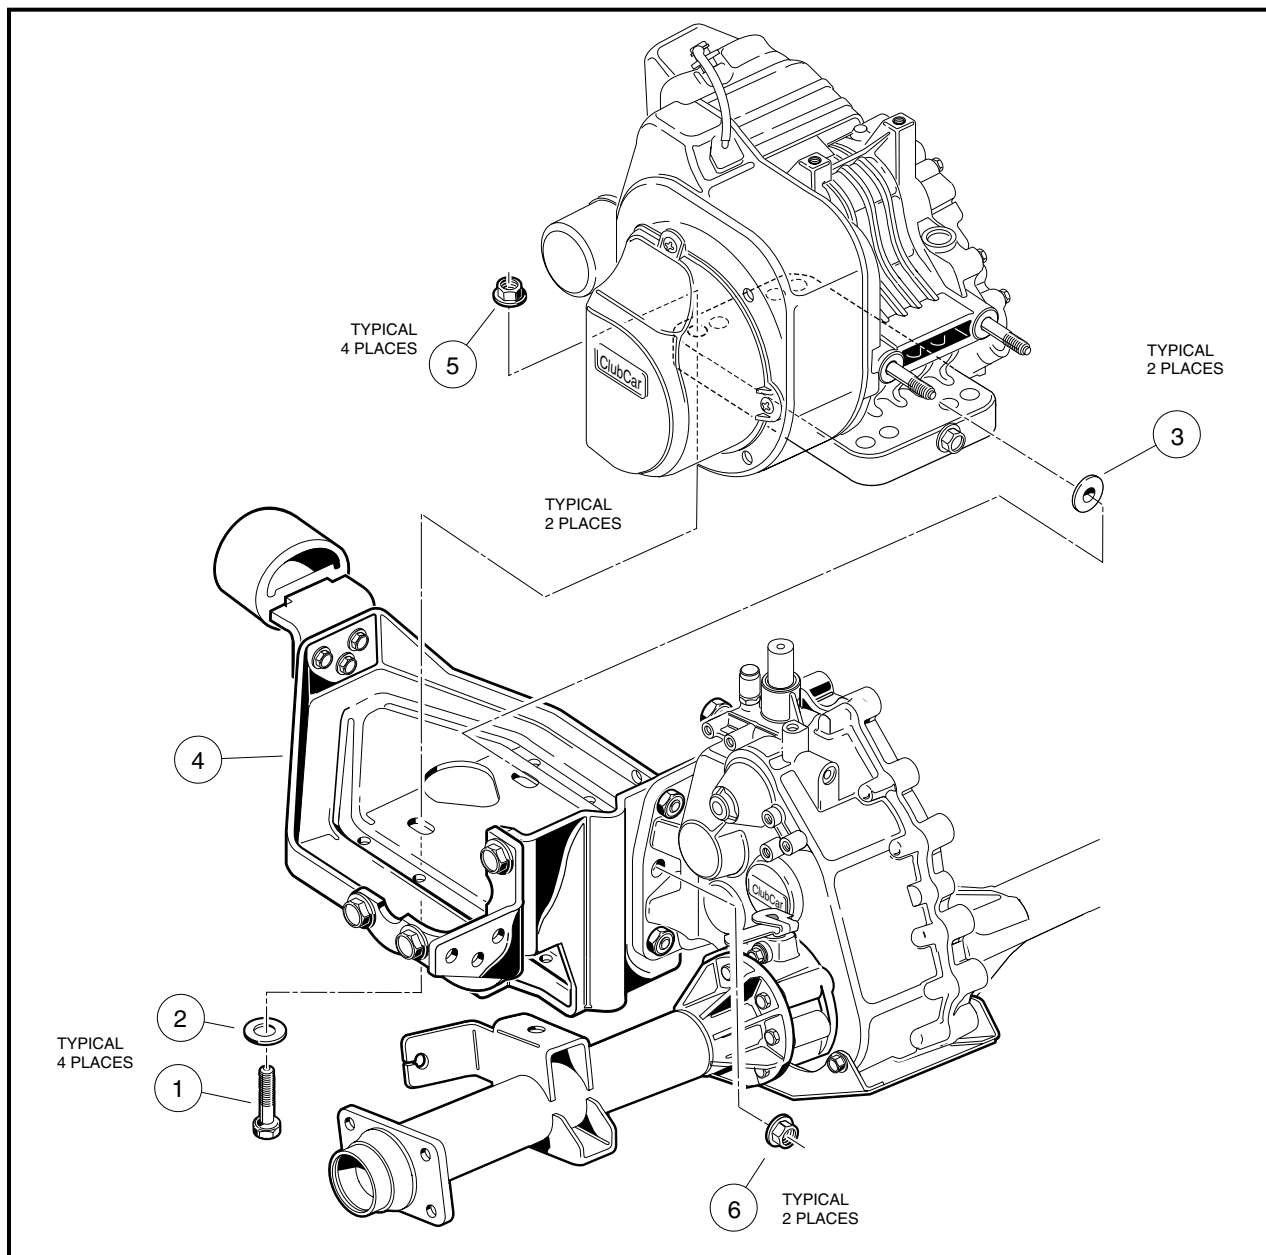

Figure 13-43 Engine Mounting Plate - with MC012C-AS00 Transaxle
5. Remove engine mounting hardware (Items 1, 2, 5 and 6) (**Figure 13-43, Page 13-23**).